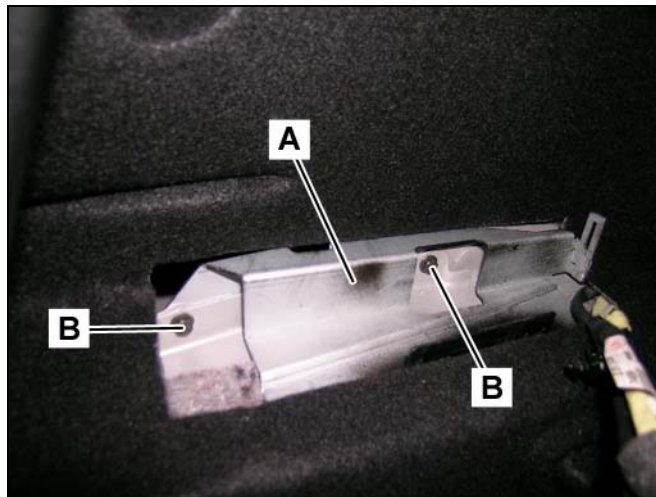

Figure 15
6. Mount Part A of the SDARS bracket (A, Figure 15) to the body paneling on the exposed left side in the trunk with the two kit-included M5 screws (B, Figure 15).